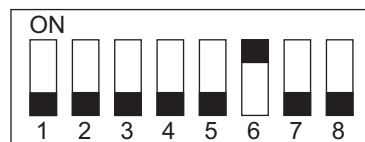

Fig. 3-109
(1) Remove the right inner cover and the rear cover.
(2) Adjust the front jogging plate to the home position.
- Set SW1 on the finisher controller PC board as shown in  P.3-85 "Fig. 3-109".